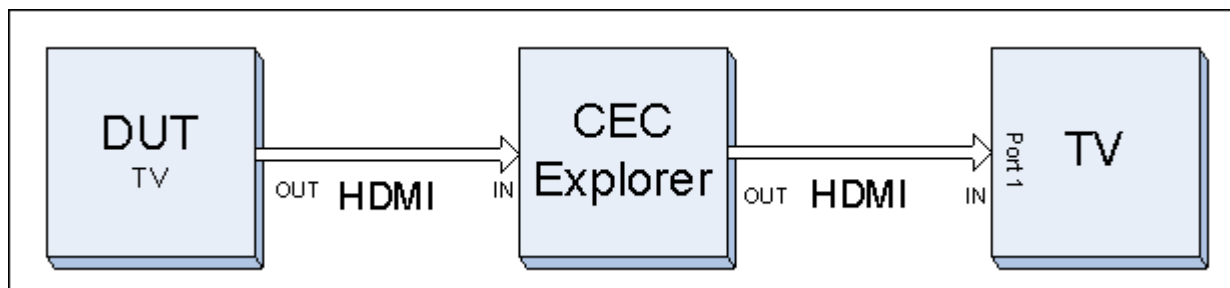

Figure 64: Configuration for a TV with HDMI Out Port
- A sink DUT with an OUT port under test shall be connected to the IN port. In this case, a TV's HDMI IN port 1 has to be connected to the OUT1 port (Figure 64).